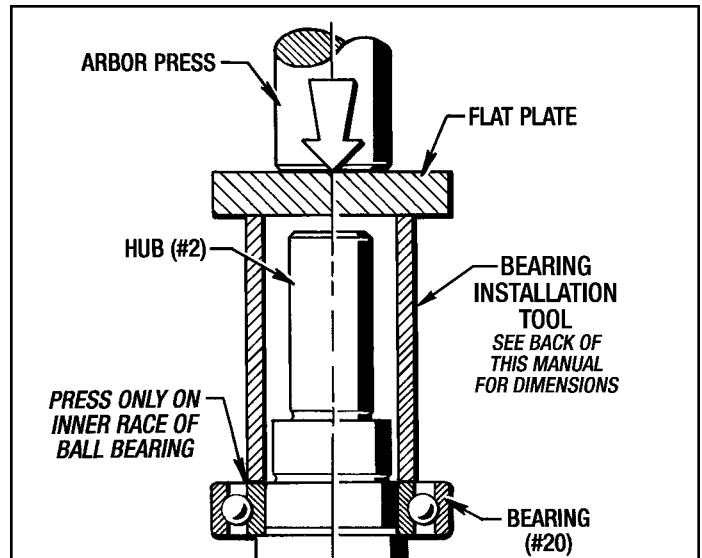

Figure 9.7 - Installing Bearing (#20)
**Method #2** - Press the Bearing (#20) on to the Hub (#2) with an arbor press and appropriate sleeve as shown in Figure 9.7. Dimensions are given for this Bearing Installation Sleeve in the back of this manual.